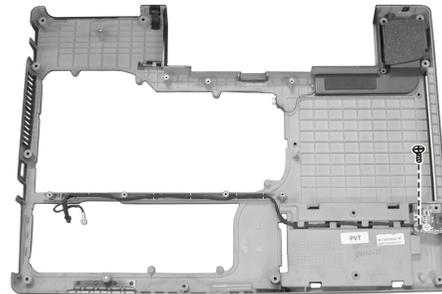

Figure 2-28 Free the modem board
3. Remove the one screw and lift the modem board, then free it. (Figure 2-28)